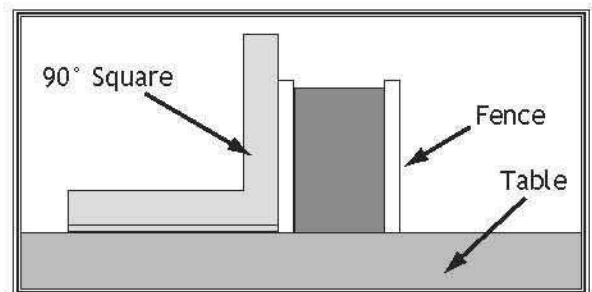

Figure 114. Example of checking fence squareness to table.
2. Place square on table against face of fence (see **Figure 114**) to check if fence is square to table.